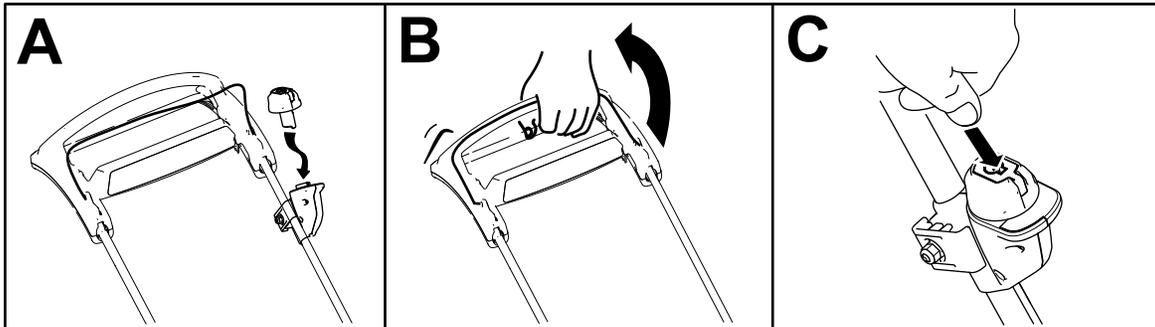

Figure 9
2. Insert the electric-start button into the electric-starter switch (A of Figure 9).
3. Squeeze the blade-control bar and hold it to the handle (B of Figure 9).
4. Press the electric-start button and keep it pressed until the motor starts (C of Figure 9).